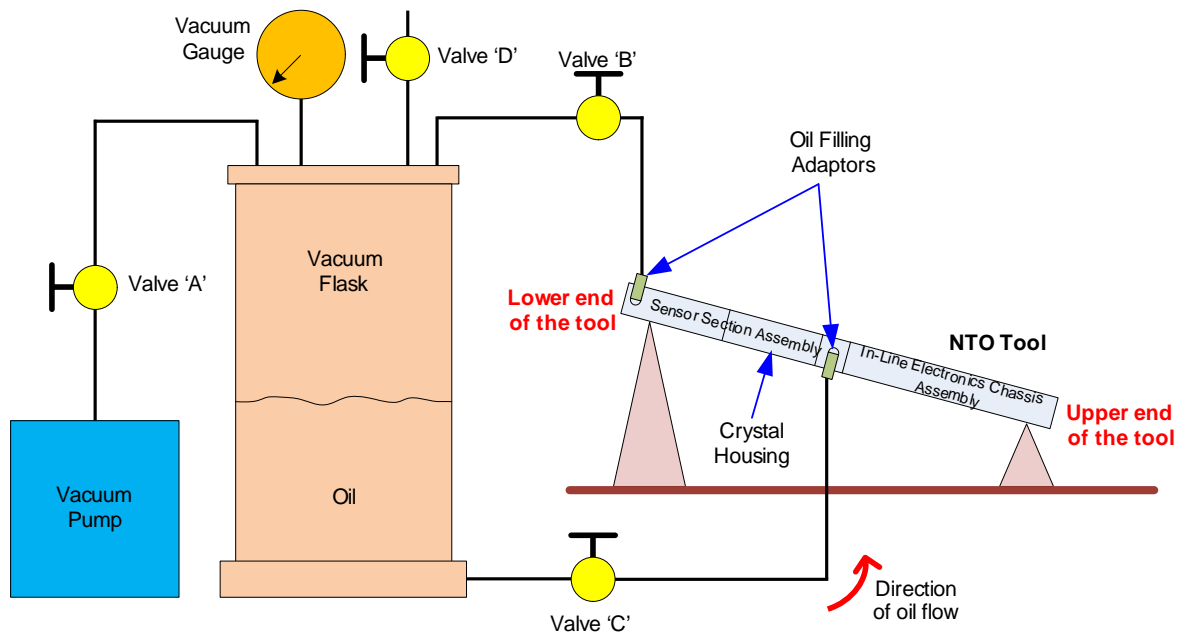

Figure D-4 Basic setup of the Oil Fill Rig and the NTO009
- 6 Position the tool on suitable V-block supports with the lower end of the tool at the higher level as shown in Figure D-4.
- 7 With reference to Figure D-4, connect a suitable vacuum-type Oil Fill Rig to the two Oil Filling Adapters. Make sure the Oil Fill Rig contains Dow Corning® DC200 100CST Oil (P/N: 415574).
- 12 Close all the valves on the oil fill rig and then remove the Oil Filling Adaptor (complete with its O-Ring) from the oil fill port that is closest to the **lower end of the tool** (see Figure D-4).
- 13 Install one of the Screws (item 30) (complete with a new O-Ring - item 23) and tighten to seal the oil fill port.
- 16 Install the second Screw (item 30) (complete with the new O-Ring - item 23) and tighten to seal the oil fill port.
- 17 Remove and retain the O-Ring (item 4, KITT014-NTO009) and the two Piston Setting Pins (item 3, KITT014-NTO009).
- 18 Where applicable, attach the In-Line Electronics Chassis Assembly (item 2, 416026) to the Sensor Section Assembly.
- 19 Install the Pressure Housing (item 3, 416026).
- 21 Install the two thread Protectors (item 4 & 5).